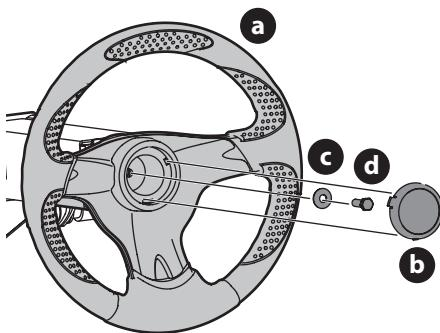

Figure 12
- Remove the hardware for attaching the steering wheel (a) from beneath the steering wheel cover (b). Carefully remove the cover by inserting a small, bladed screwdriver into one of the three snap locations and slowly prying up on the steering wheel cover (b) to remove the hardware (Figure 12).
- With the wheels of the machine pointing straight forward, place the steering wheel (a) over the steering shaft (Figure 12).
- Place the Belleville washer (c) with the cupped side facing inward over the steering wheel and secure with the hex lock screw (d) (Figure 12).
- Place the steering wheel cover (b) over the center of the steering wheel (a), align the three snaps with the tabs in the steering wheel, and push downward until it "clicks" into place (Figure 12).